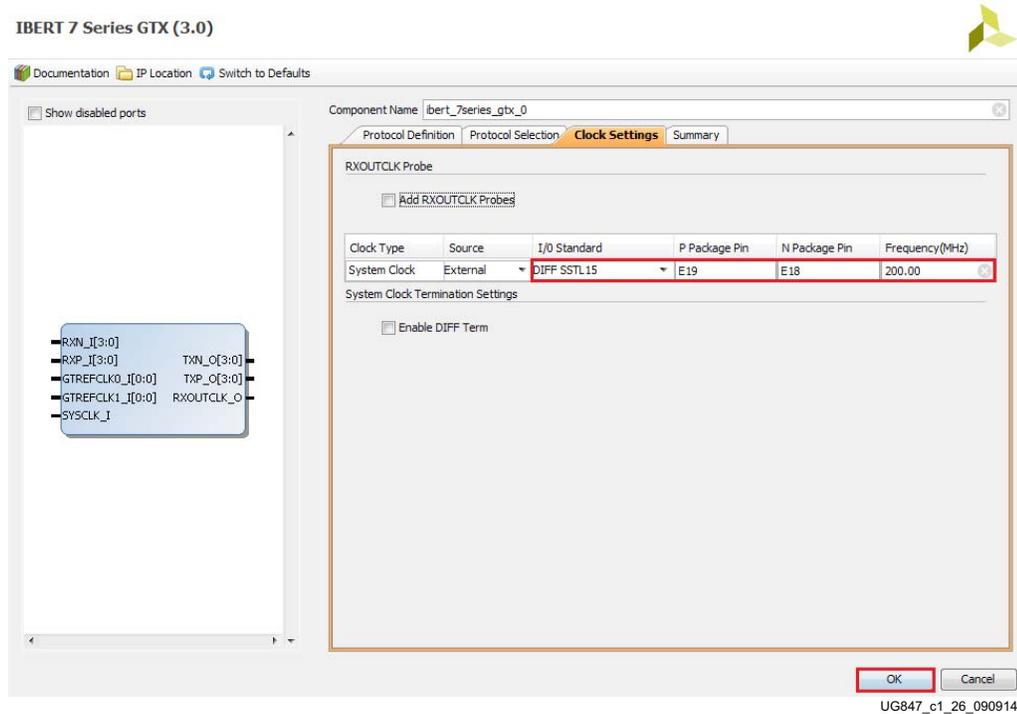

Figure 1-26: Customize IP - Clock Settings
- In the Clock Settings tab, select **DIFF SSTL15** for the I/O Standard, enter **E19** for P Package Pin and **E18** for N Package Pin (the FPGA pins that the system clock connects to), and make sure the Frequency is set to **200.00** (Figure 1-26). Press **OK**. A Generate Output Products window opens. Leave the defaults unchanged, and press **Generate**.